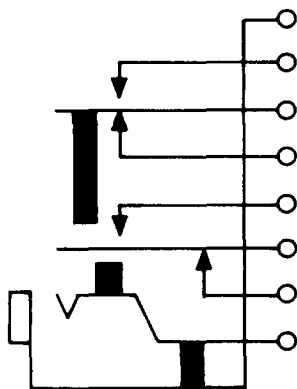

Fig. 6—476A Jack
**2.02 476A:** This single-mounted jack (Fig. 6) is designed to be used with the 47 or similar-type plugs. This jack is intended to be mounted with the springs in a vertical plane. The 476A jack is used in order wire telephone set circuits at ac powered stations. This jack is used in J68643 voice frequency telephone repeaters at auxiliary repeater stations of the L1 Carrier Telephone System.